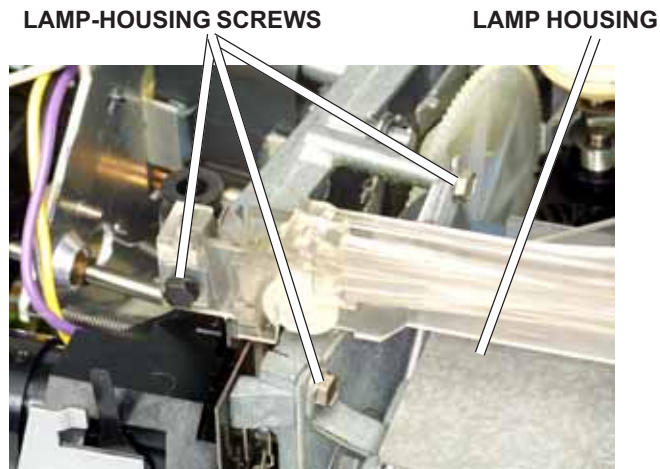

FIG. MD13 Underside of projector mechanism.
7. Using your 1/4" nut driver, remove the three screws pointed out in Fig. MD13.